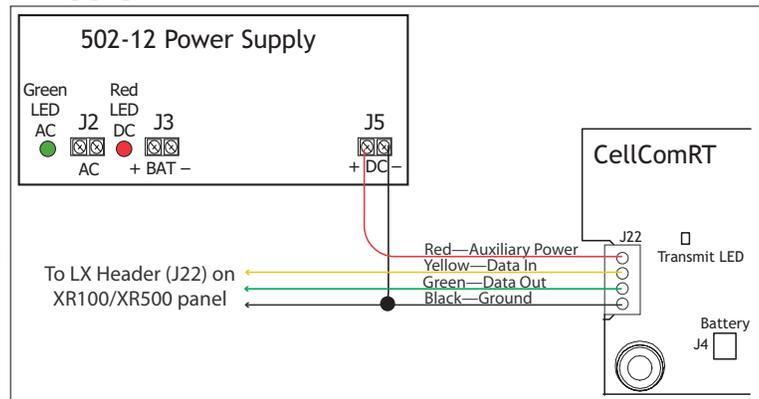

Figure 3: Optional Auxiliary Power Supply Installation
1. Connect the Red wire (auxiliary Power) to the top CellComRT J22 terminal position 'R' and to the DC positive terminal (+) of the power supply. See Figure 3.
2. Connect the Black wire (ground) to the bottom CellComRT J22 terminal position and to the DC negative terminal (-) of the power supply and to the LX header (J22) on the XR100/XR500 Series panel. See Figure 3.